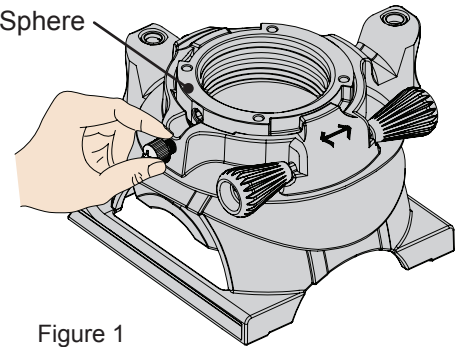

Figure 1
- 1) Finger-tighten the knurl knob until it makes firm contact with the FTP Support Sphere (Figure 1).